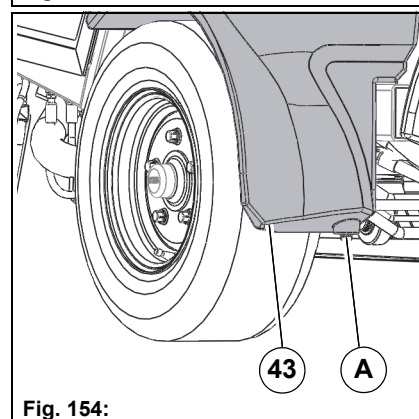

Fig. 154:
2. Unscrew the drain screws **Fig. 154-A** on both sides of the fresh water tank **Fig. 154-43** and empty the tank.